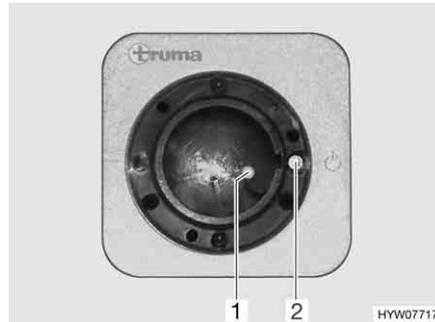
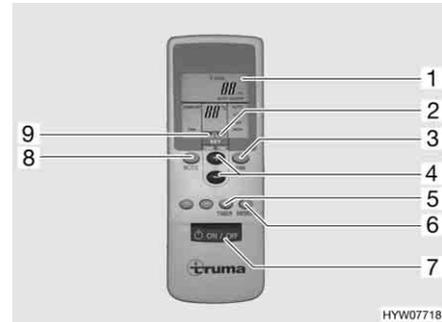

Fig. 149 Receiver
Fig. 150 Remote control
- Switch on the remote control with the switch (Fig. 150,7). The green indicator lamp (Fig. 149,1) indicates cooling mode.
- Set the desired operating mode with the key (Fig. 150,8).
- Set the desired fan output and room temperature with the keys (Fig. 150,3 and 4) if necessary. The arrow (Fig. 150,9) indicates the selected setting mode.
- ▷ An additional key switch (Fig. 149,2) is on the receiver, which can be used to switch the air conditioning unit off or on without remote control. If the air conditioning unit is switched on by means of this key switch, the operating mode set last on the remote control is automatically selected.
- To switch off, press the key (Fig. 150,7) on the remote control again.
- To program, switch on the air conditioning unit with the key (Fig. 150,7) on the remote control.
- Set the desired operating mode and room temperature with the keys (Fig. 150,8, 3 and 4).
- Use the key (Fig. 150,5) to select the desired function (Fig. 150,1):
- Use the keys (Fig. 150,4) to select the desired switching time (1 to 15 hours). The arrow (Fig. 150,2) flashes and indicates the setting mode.
- ▷ The key (Fig. 150,6) is used to send the settings of the remote control repeatedly to the receiver.